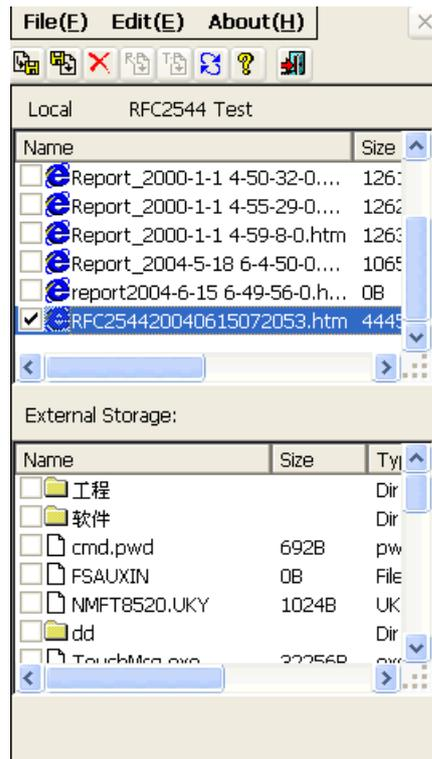

Figure 6.1.7 Data Export
**Step2:** Click the “**Data Manage**” icon to enter the Data Export module, as shown in figure 6.1.7.